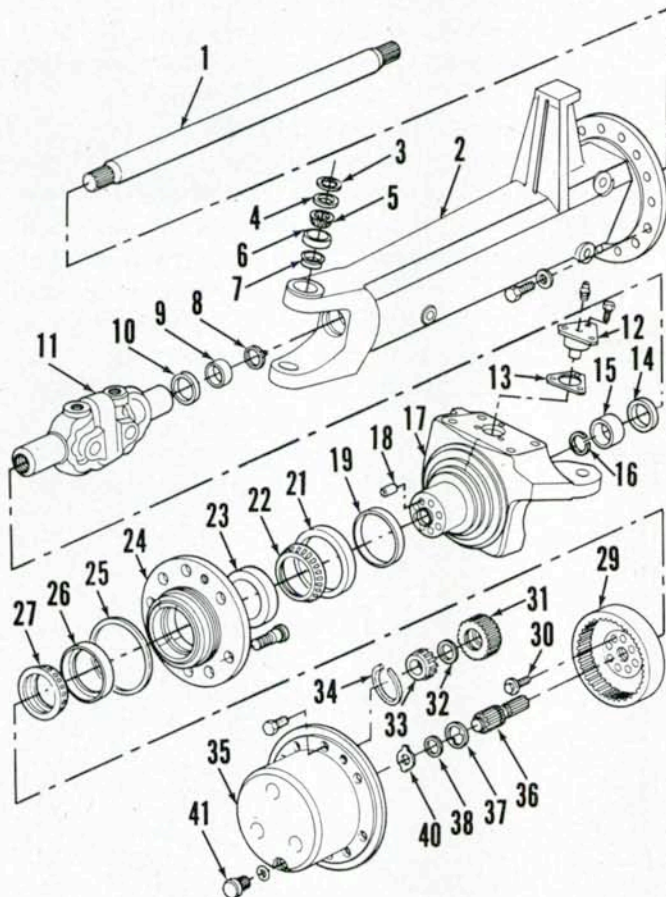
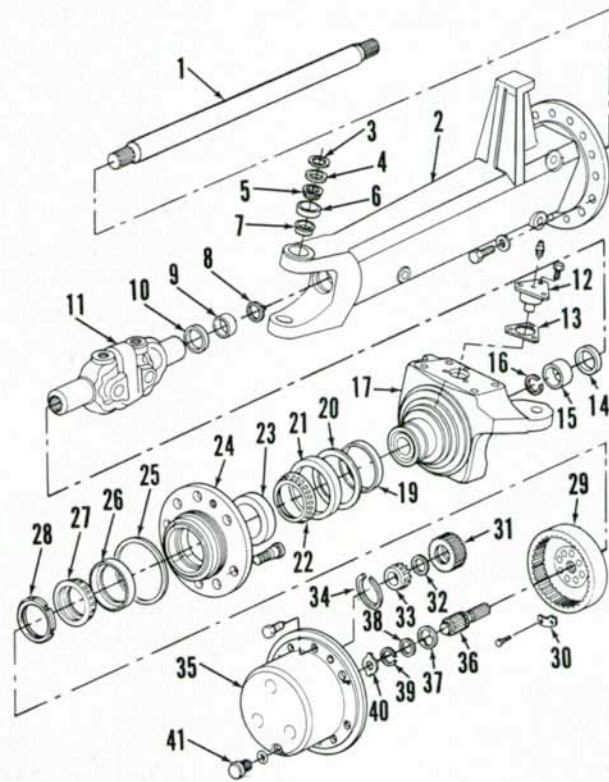
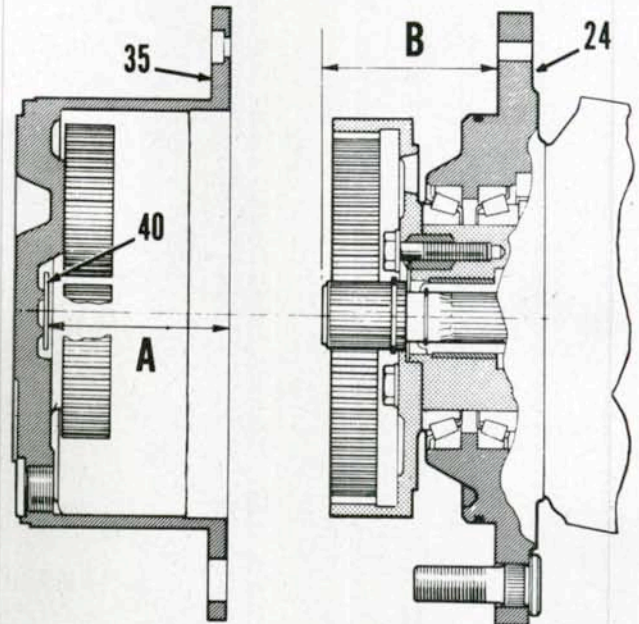

Fig. 8—Exploded view of hub and planetary assembly used on APL-345 type front wheel drive axle.
Fig. 9—Exploded view of hub and planetary assembly used on APL-355 type front wheel drive axle. Refer to Fig. 8 for legend except for the following:
Fig. 12—To determine axle shaft end play, measure distance A and B and refer to text. Thrust washer (40) is available in various thicknesses to adjust end play.
On APL-345 axles, remove cap screws (30—Fig. 8) attaching ring gear (29) to steering knuckle (17). Pull the ring gear off the knuckle locating dowels (18) using a suitable puller. Pull the hub (24) and bearings off steering knuckle.
**NOTE:** The center screw of puller must not apply force to end of sun gear shaft (36). Thread three long cap screws into ring gear bolt holes and locate a step plate on heads of cap screws to provide a base for puller screw.
On APL-355 axles, remove locking plate (30—Fig. 9) securing slotted nut (28). Remove the slotted nut using special hub nut socket (Nuday tool number 12235) or other suitable tool. Remove ring gear (29), hub (24) and bearings from steering knuckle (17).
On all models, remove bearings and oil seal from hub. Remove retaining rings (32—Fig. 8 or 9) and withdraw planetary gears (31) and bearings (33) from carrier. Remove thrust washer (40). The sun gear (36) is attached to axle shaft universal joint (11) by a retaining ring (16). To remove the retaining ring and sun gear, the steering knuckle (17) must first be removed as outlined in paragraph 9.
To reassemble, heat the inner and outer bearing cones (22 and 27—Fig. 8 or 9) to 212° F (100° C). Position inner bearing cone in hub, then install a new oil seal (21) to hold bearing in place. On APL-355 axle, install scraper "V" ring (20) onto the oil seal with the "V" side facing outward. On all axles, coat oil seal lip with grease and install hub assembly onto steering knuckle while bearing cone is still hot. Assemble the heated outer bearing cone onto the knuckle and hub.
On APL-355 axle, install ring gear and slotted nut onto steering knuckle and adjust bearing preload as follows: With hub nut finger tight (no preload on bearings), wrap a cord around hub stud nuts as shown in Fig. 11 and use a spring scale to measure rolling resistance of hub. Note spring scale reading while slowly rotating the hub, then tighten hub nut in small increments until hub rolling resistance increases 5-12 pounds (2.3-5.4 Kg) above spring scale reading obtained with zero bearing preload. Install locking plate (30—Fig. 9) into one of the slots in nut to lock it in place.
On all axles, the thrust washer (40—Fig. 8 or 9) located in center of planetary carrier controls axle shaft end play. The thrust washer is available in various thicknesses. To determine correct thickness of washer to provide specified axle shaft end play of 0.012-0.024 inch (0.30-0.60 mm), proceed as follows: Place original thrust washer in carrier, then use a straightedge and depth micrometer to measure distance (A—Fig. 12) from mounting surface of carrier to face of thrust washer. Push sun gear inward, then measure distance (B) from end of sun gear shaft to mounting surface of hub. Subtract dimension (B)
**9. STEERING KNUCKLE AND AXLE SHAFT.** To remove steering knuckle (17—Fig. 8 or 9), first remove planetary carrier assembly as outlined in paragraph 8. Remove snap ring (39), retainer (38) and thrust
Install special torque wrench adapter (tool No. 0566), or similar tool, onto the upper kingpin so a torque wrench can be centered over kingpin as shown in Fig. 13. Check the torque required to swivel the steering knuckle, which should be 7-9 ft.-lbs. (10-12 N·m) for APL-345 axles or 11-13 ft.-lbs. (15-18 N·m) for APL-355 axles. Increasing thickness of shims (13—Fig. 8 or 9) will decrease turning torque, or decreasing thickness of shims will increase turning torque. Shims should be installed under the upper kingpin only.